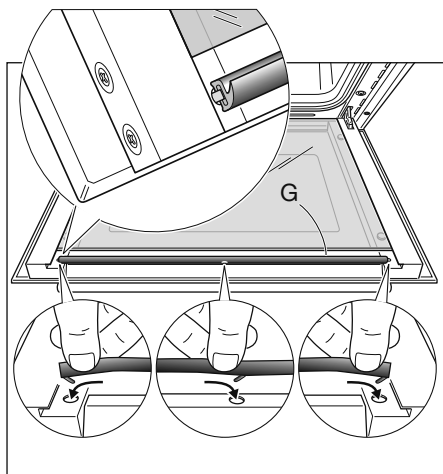

Fig.38e
- Replace the seal "G" by hooking in the three fixing hooks. Make sure that you put it in the correct way. (Fig. 38e).